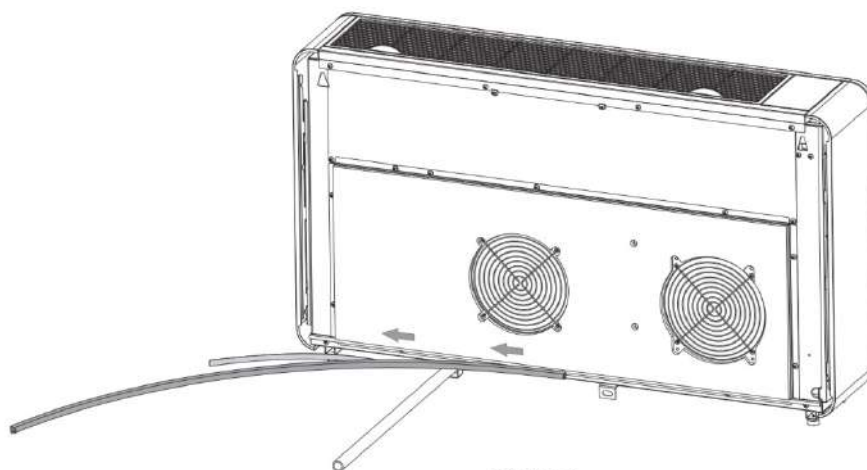

Figure 1
1. The sealing strip should be pasted along the edge of the machine, as shown in Figure1.